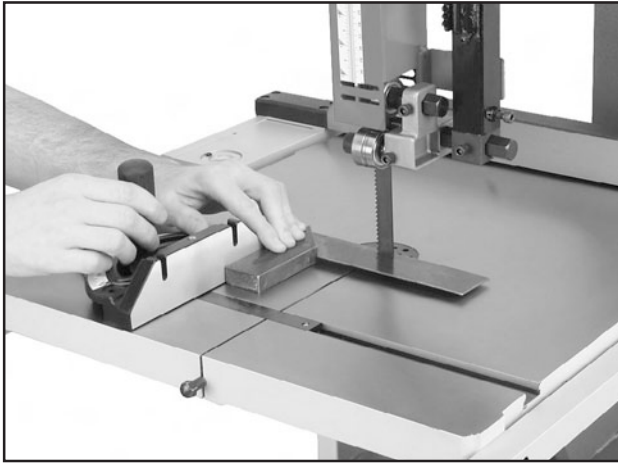

Figure 49. Squaring miter gauge to blade.
1. Use a machinist's square with one edge against the face of the miter gauge and the other against the blade face as shown in **Figure 49**.